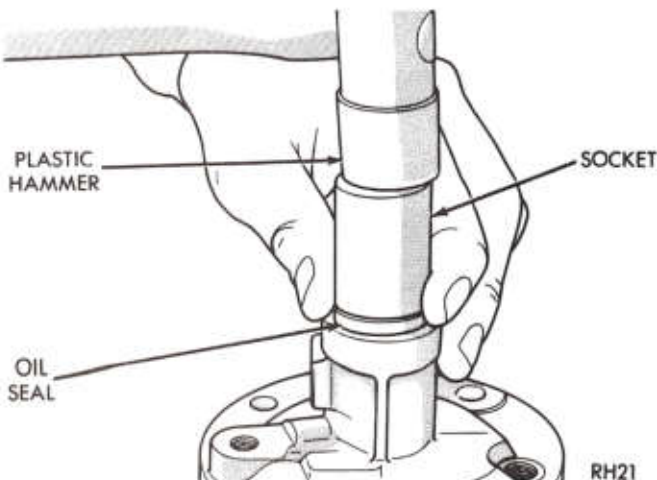

Fig. 9—Install Seal
(1) Place pump body on flat surface and drive new driveshaft seal into bore with a 7/8 or 15/16 inch socket until seal bottoms on shoulder (Fig. 9).